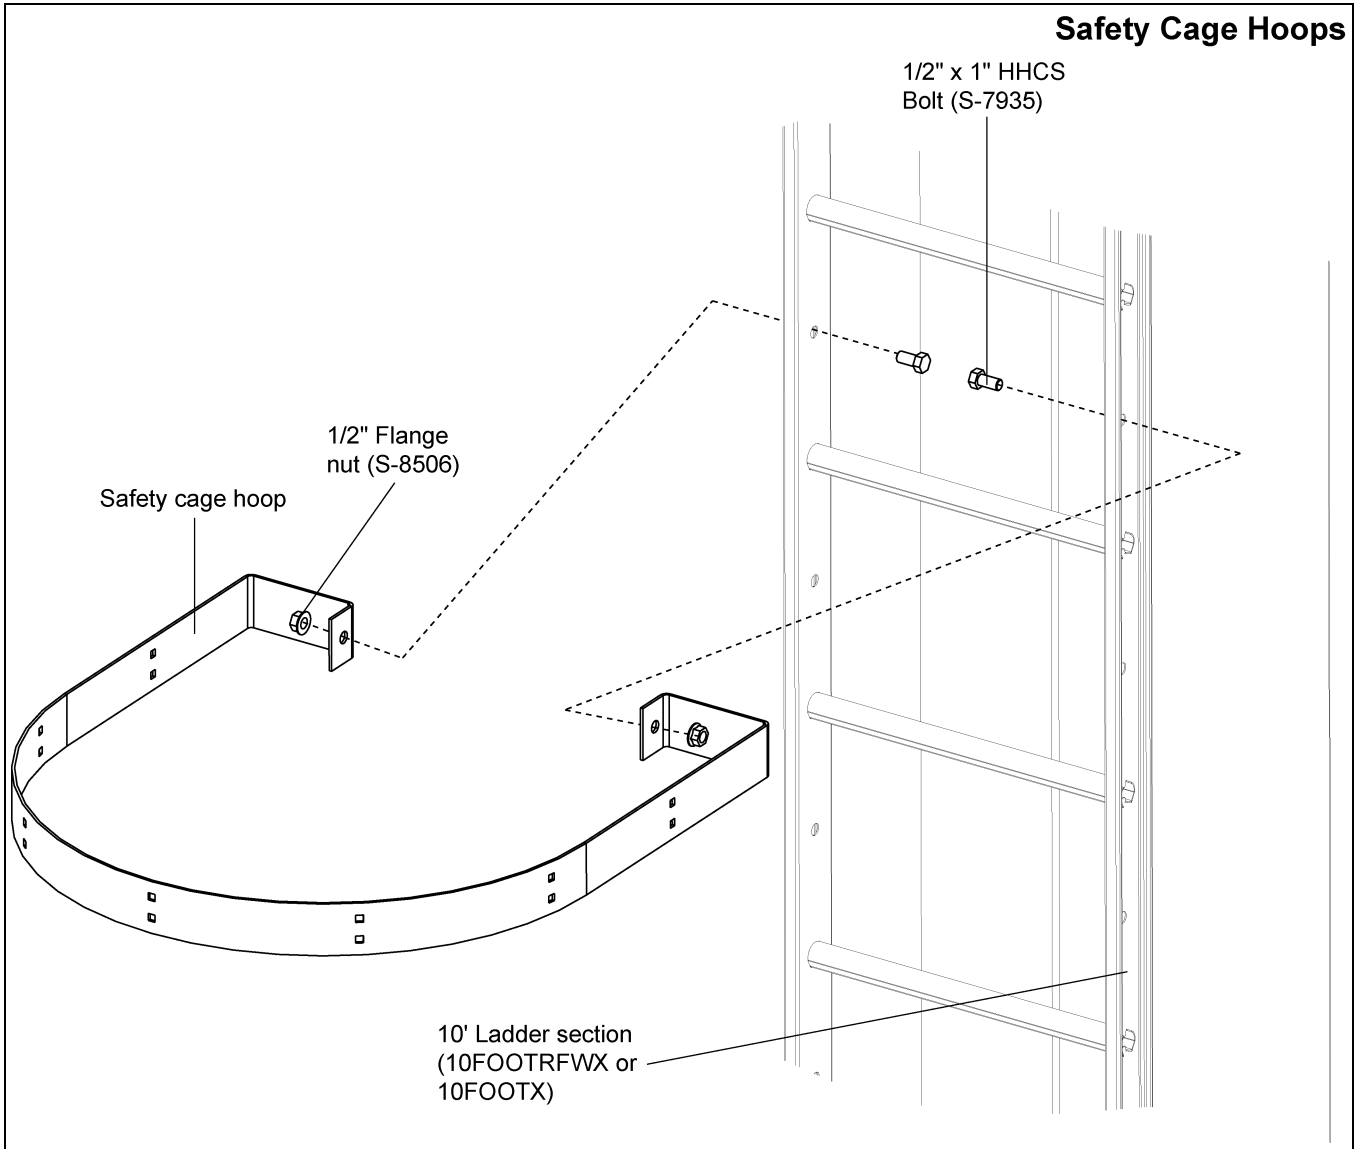

Figure 6X
2. Attach safety cage hoops to ladder using 1/2" x 1" bolts and nuts. (See Figure 6X.)